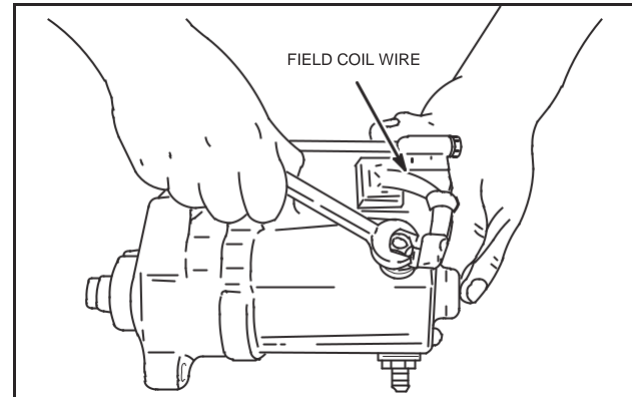

Fig. 52 – Removing Field Coil Wire
1. Remove nut and field coil wire from stud terminal on solenoid, Fig. 52.